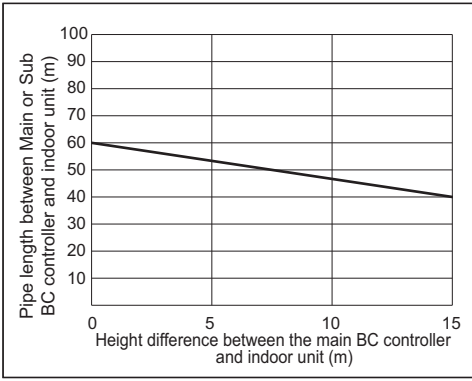

Fig. 2
- *9. When the piping length or the vertical separation exceeds the limit specified in Fig. 2, connect a sub BC to the system.
When using indoor models M140 or larger, the restrictions shown in Fig. 2 cannot be exceeded.
*9. When the piping length or the vertical separation exceeds the limit specified in Fig. 2, connect a sub BC to the system.